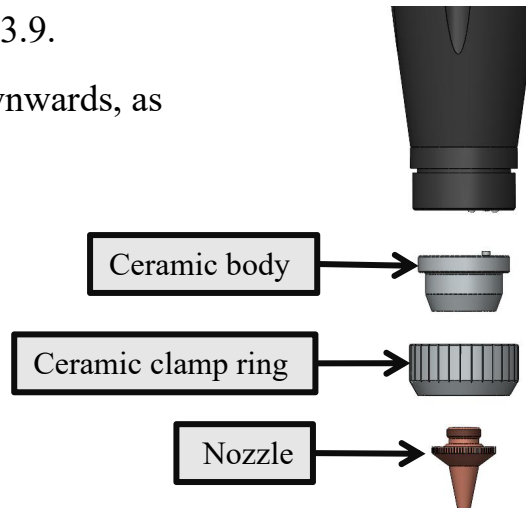

Figure 3.9
- ① Unscrew the nozzle counterclockwise, as shown in Figure 3.9.
- ② Unscrew the ceramic retaining ring counterclockwise, as shown in Figure 3.9.
- ③ Remove the ceramic vertically downwards, as shown in Figure 3.9.